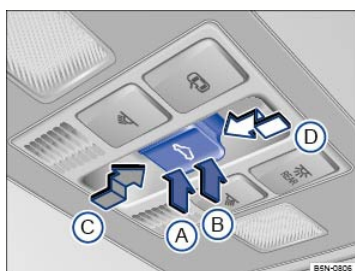

Fig. 66 In the headliner: Power sunroof switch.
The  switch ⇒ Fig. 66 has two detents for each switch position (A, B, C, and D).
- Press the  button → Fig. 66 within about 5 seconds after the sunroof has stopped and hold it in the direction of the arrow  at the second detent until the power sunroof closes completely.